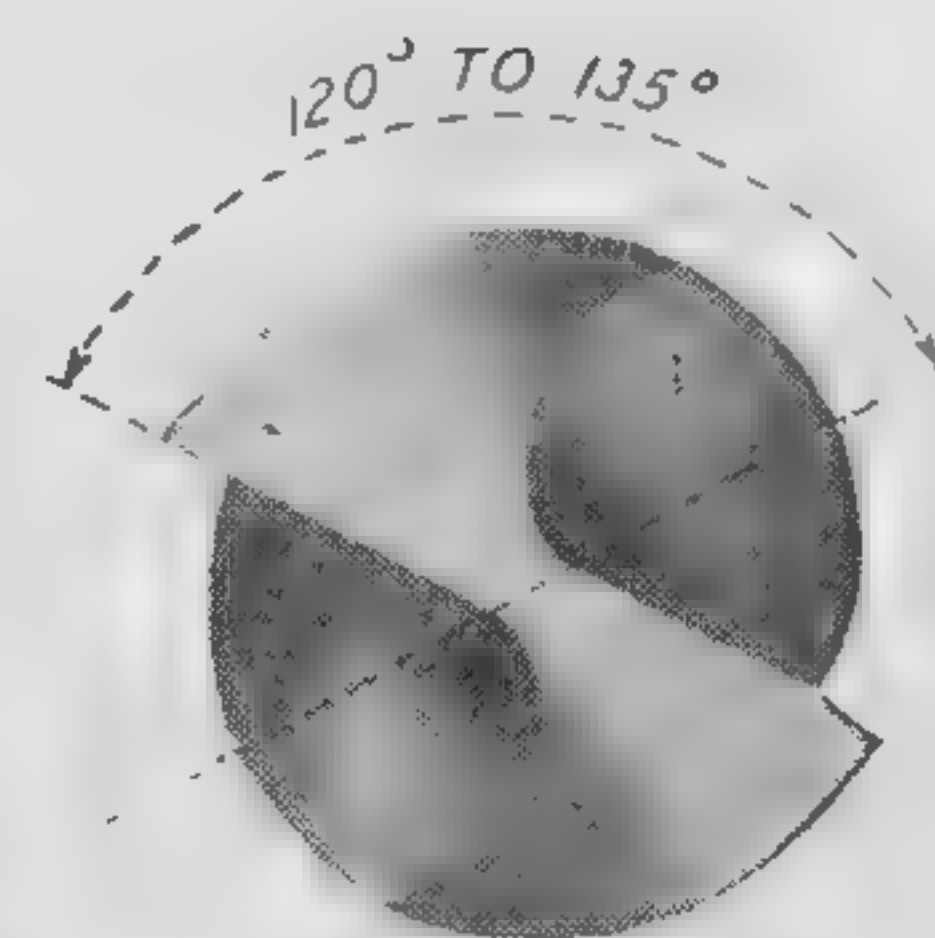

Fig. 25. Another Way to Gage Lip Clearance
4. Lastly, the edge or web must be ground slightly to the right as indicated in Fig. 25. This provides the correct lip angle clearance and